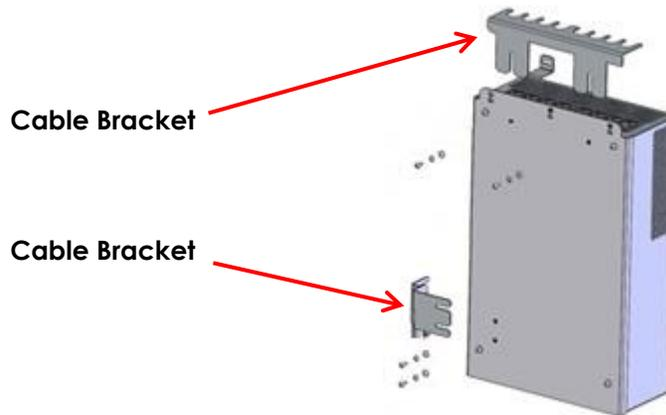

Figure 119: Cable Brackets securing the Power Box Cover
4. Using a 2.5 mm hex driver, remove the hex screws securing the cable brackets from the power box (refer to Figure 119).
11. Using the 2.5 mm hex driver, replace the two cable brackets to secure each to the power box cover (refer to Figure 119).
13. Using the 2.5 mm hex driver, place and fix two cable brackets to the power box cover (refer to Figure 119).